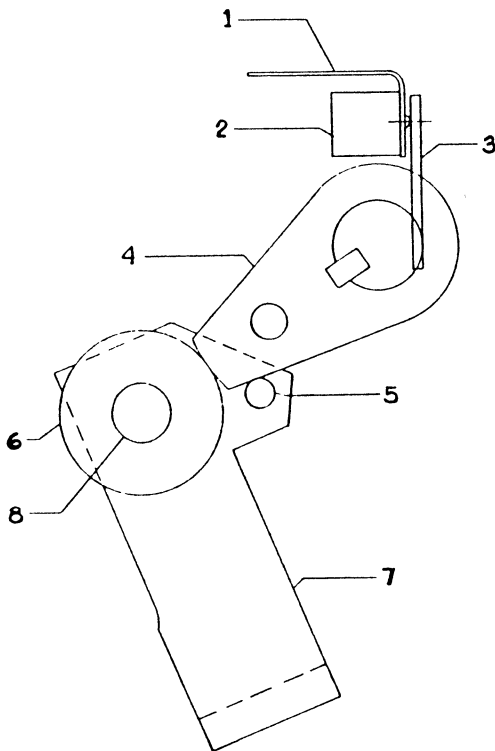

Figure 13. (0114C5320) Latch Checking Switch
Refer to Figure 13. Charge the closing springs sufficiently to reset the mechanism linkage. Rotate the trip latch (4) by pressing manual trip lever to open the latch checking switch (2). Allow the trip latch to reset slowly and determine the point at which the contacts are made by using a circuit continuity tester (light indicator, bell set, etc). The contacts of the latch checking switch should just make when the gap between the trip latch (4) and the stop pin (5) located on the latch roller link (7) is $1/16$ ". There should be a minimum of $1/64$ " between the switch arm (3) and the switch support (1). To obtain adjustment of the latch checking switch, bend the latch checking switch arm (3).